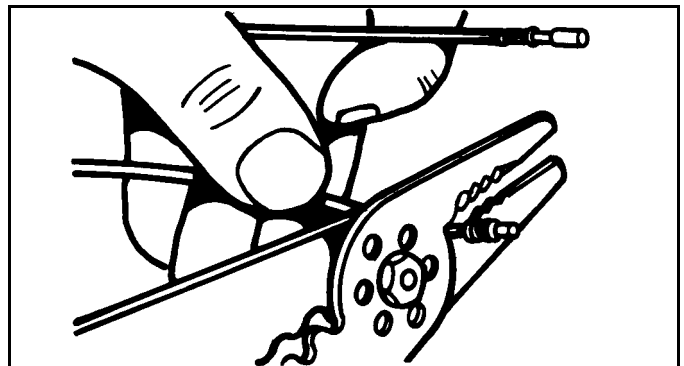

Figure 2-9
2. Use Universal Electrical Pliers to remove wire as close as possible to old contact. (See Figure 2-9)